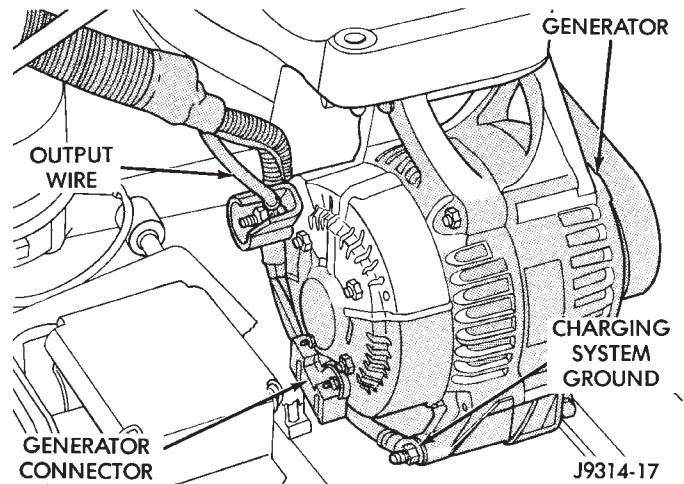
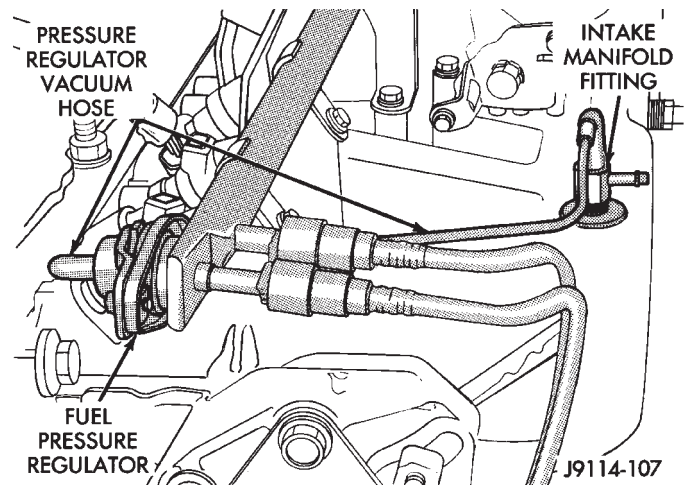

Fig. 5 Generator Connector and Output Wire Connections—Typical
Fig. 6 Fuel Pressure Regulator Vacuum Hose—Typical
(6) Verify that generator output wire, generator connector and ground wire are firmly connected to the generator (Fig. 5).
(7) Inspect the system ground connections at the right inner fender next to the battery. Be sure the bolt is tight and the ground terminals are clean. The Powertrain Control Module (PCM) is grounded directly (and plugged individually) to the negative battery cable with a small jumper harness.
(8) Verify that crankcase ventilation (CCV) fresh air hose is firmly connected to cylinder head and air cleaner covers. Refer to Group 25, Emission Control System for information.
(9) Verify that vacuum hose is firmly connected to fuel pressure regulator and manifold fitting (Fig. 6).